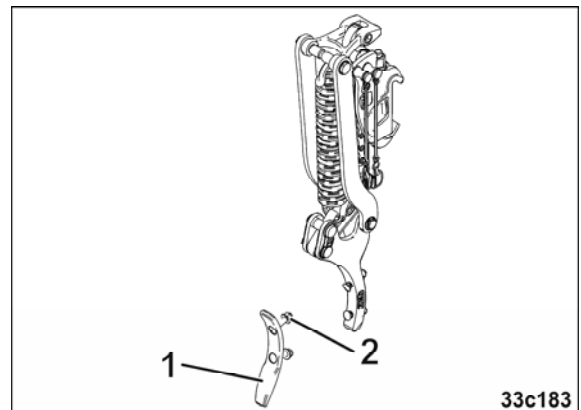

Fig. 166
1. Unscrew the nuts (Fig. 166/2)
2. Replace the wheel mark eradicating coulter tips (Fig. 166/1)
3. Tighten the nuts (Fig. 166/1)